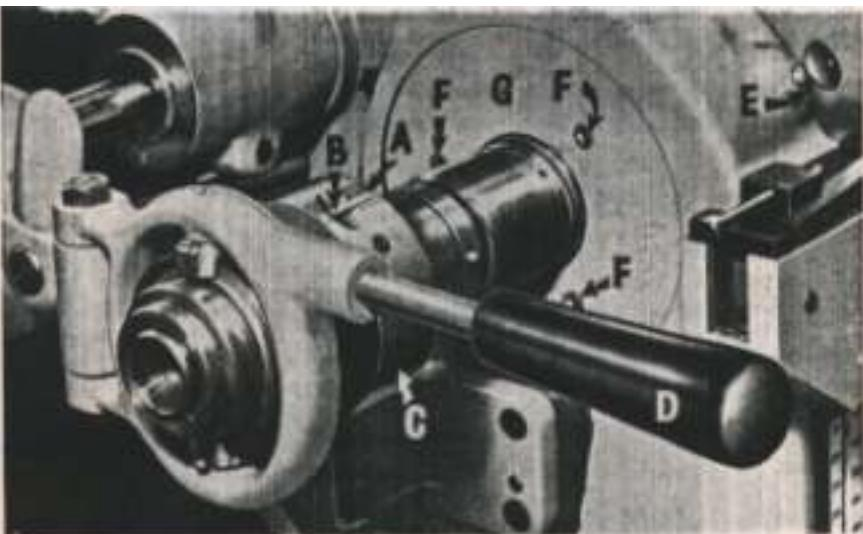

Figure 9
ADJUSTING COLLET CLOSER—Figure 9
2. Open collet closer latch "A", Figure 9, by pressing down at point "B".
3. Start the collet closer tube on the collet or step chuck and thread about two turns only. To turn the collet closer tube, the operator, using his left hand, turns the black shell guard "C", Figure 9, forward while he holds the collet or step chuck in place with his right hand.
5. Move lever "D", Figure 9, to the extreme left or closed position and then turn shell guard "C" toward the operator until it is drawn up as far as it will go by hand. If headstock spindle should turn, lock spindle by pressing in spindle lock pin "E", Figure 9. To engage lock pin "E" into notches provided, turn the spindle by hand until pin enters notches.
SPINDLE LOCK PIN—Figure 9
Spindle lock pin "E", Figure 9, is shown in the "out" or released position. The pin is held in this position by a spring-backed ball and detent groove in pin.